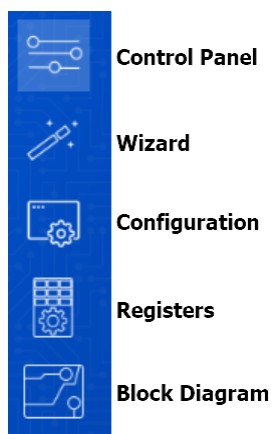

Figure 26. RICBox GUI Menu Buttons
- Use the side panel menu buttons (see Figure 26) to navigate through the GUI for all five separate pages.